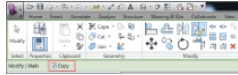

FIGURE 1.23: There are options you must choose for every command in Revit.
4. Make sure the Copy check box is selected (see Figure 1.23).